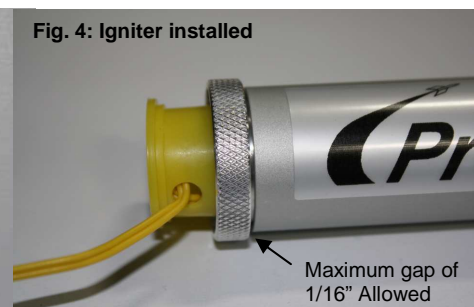

Fig. 4: Igniter installed
- Slide the nozzle cap up to the loop made in the previous step and firmly push the yellow nozzle cap over the nozzle and loop previously made to retain the igniter (Figure 4).